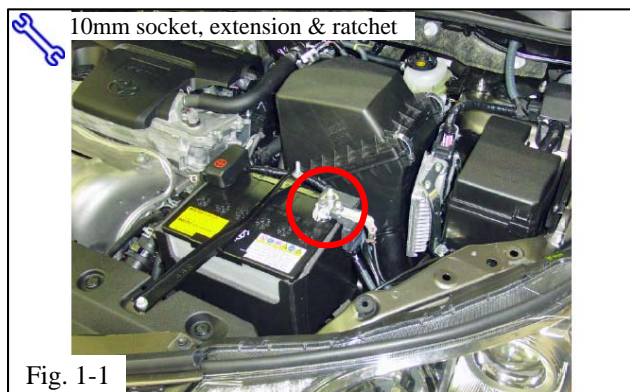

Fig. 1-1
- (2) Remove the negative cable from the battery (Fig. 1-1).